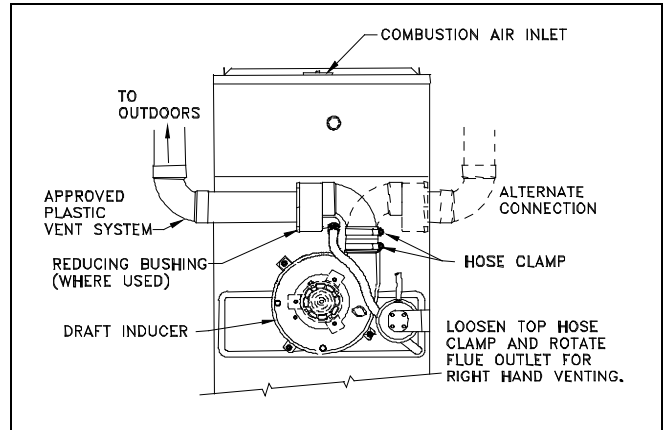

Figure 2. Vent Connection to Furnace.
- Furnace can be vented from either left or right side. See Figure 2. As shipped, furnace is setup for venting through the left side. Right side venting is accomplished by rotating flue outlet fitting and adding a street elbow to the drain fitting. Street elbow and instructions are supplied in the furnace parts package.